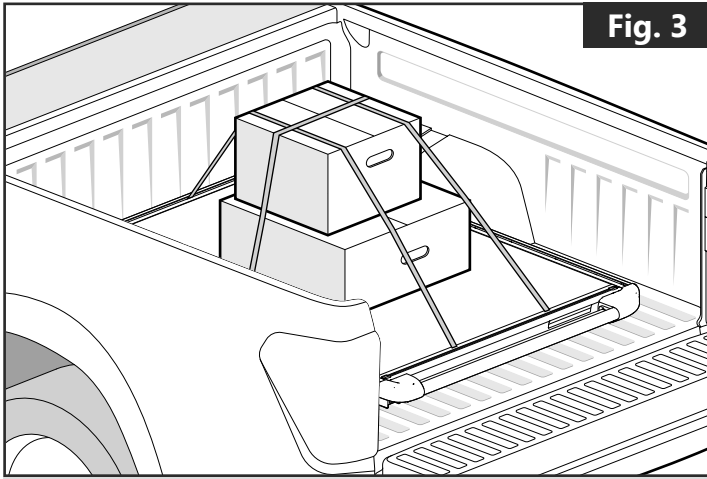

Fig. 3
- Cargo on the Mountain Top Slide™ must be secured during transportation to prevent shifting of load and damage to cargo. **(Fig. 3)**